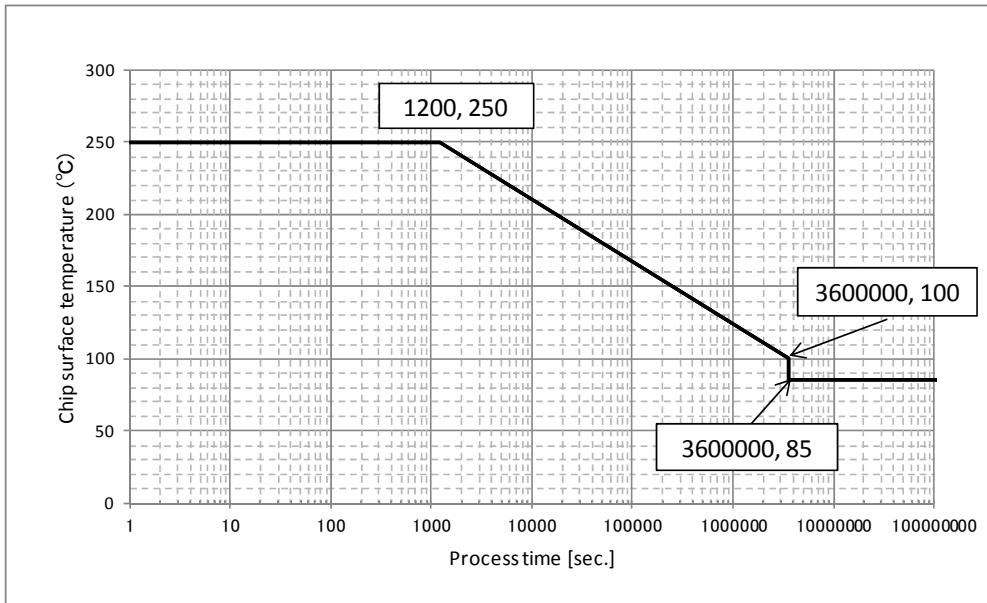

Figure 8-2: Constant Temperature
- Constant temperature : The chip surface temperature must be held at below 250°C including temperature variations. Conditions for presetting the temperature are shown in Figure 8-2.